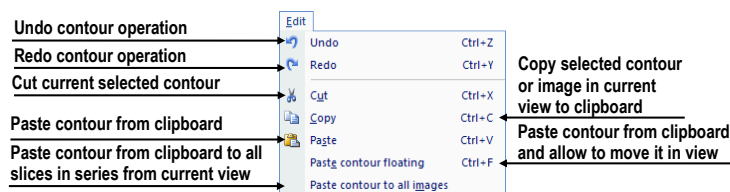

Figure 34 – Edit menu
- **Edit** – clipboard operations with images in the current view and the selected ROI contour (see Figure 34).